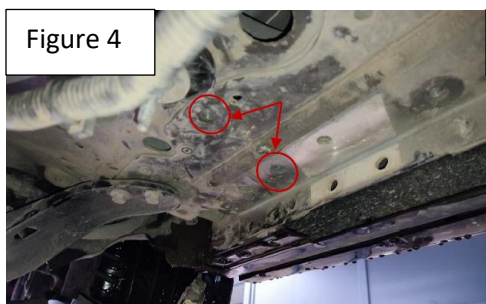
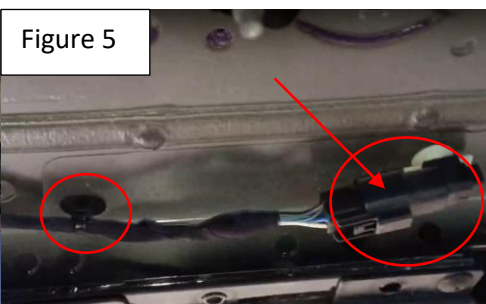

Figure 4
Figure 5
Step 5: Locate rear bracket mounting area Figure 4. If the vehicle is equipped with pre-wiring as in Figure 5, unclip and wire tie out of the way.